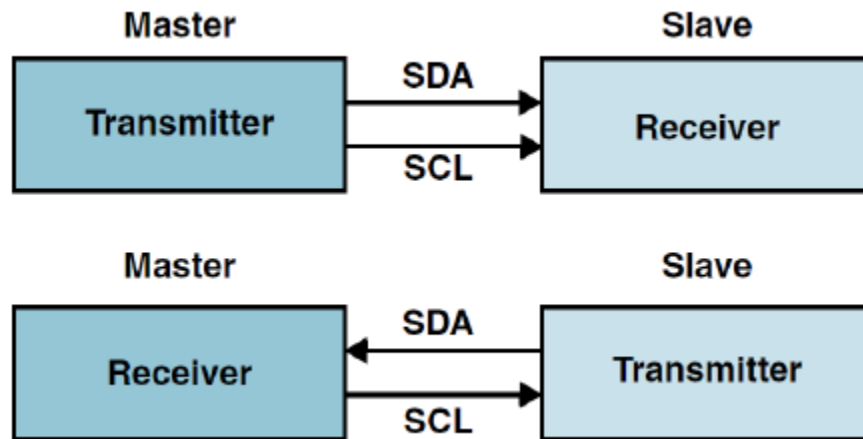

Figure 10 Master/Slave and Transmitter/Receiver Relationships
- **Slave.** The device addressed by the master. A slave can be either receiver or transmitter. These concepts are illustrated in Figure 10.